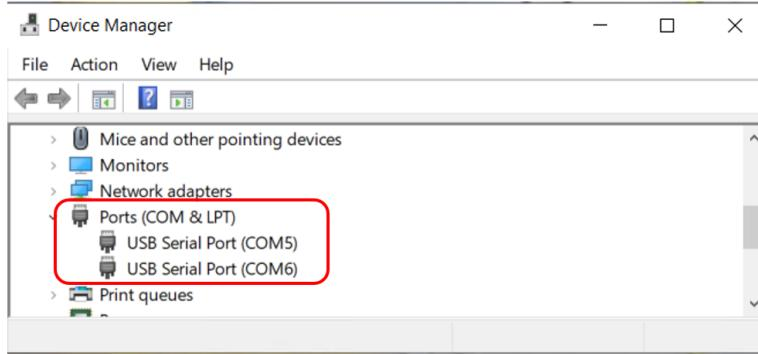

Figure 8.34: Device Manager COM Ports
11. Open the PuTTY terminals to see the output. You will need a terminal emulator such as PuTTY that talks directly to COM ports in order to see output of the serial port. To find out the two COM ports, open up the device manager and expand the Ports (COM & LPT) line (see Figure 8.34).